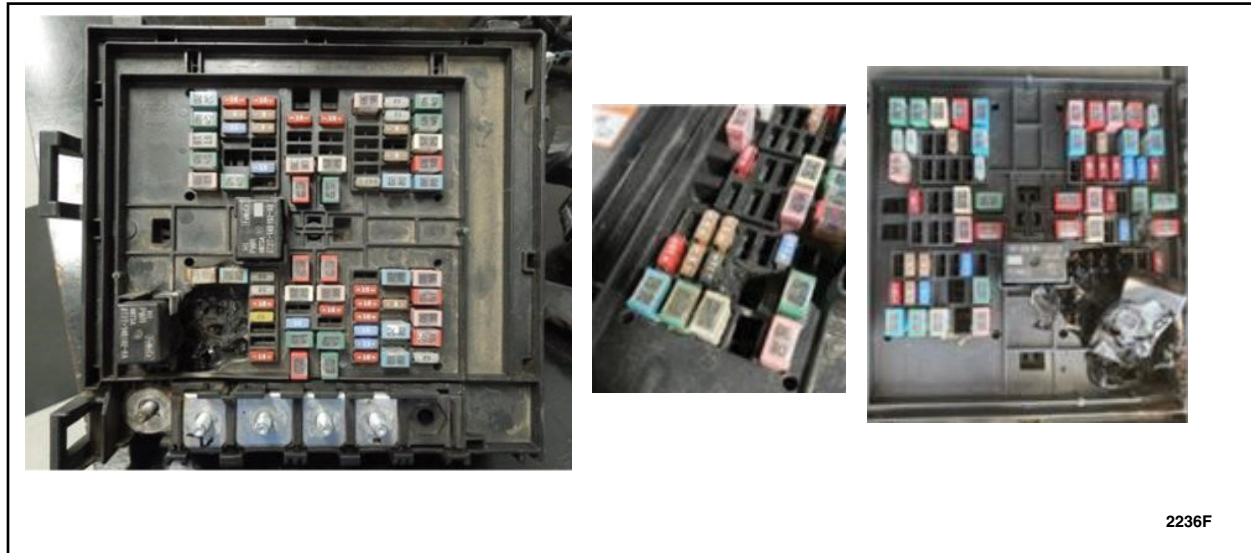

FIGURE 5
4. Remove covers and inspect BJB. Is there any evidence of melted fuse(s), melted relay(s), or melted plastic in the BJB? See Figure 5.